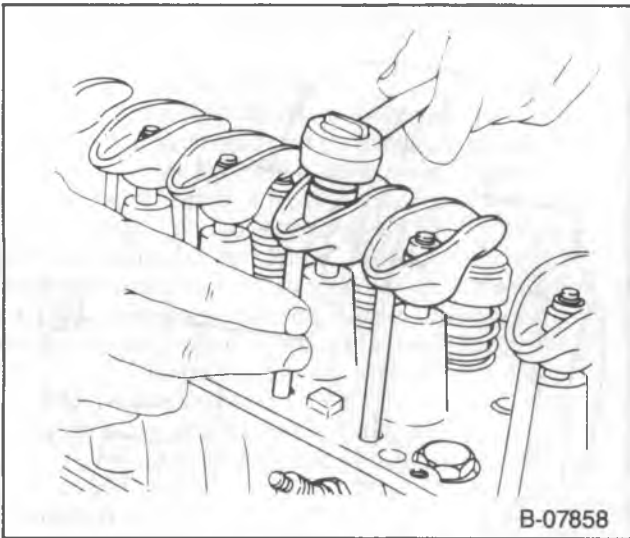

Figure 60—Adjusting the Valves
2. Turn the adjusting nuts for rocker arm numbers 4, 6, 8, 10, 11, and 12 (counted from the front of the engine) until there is no free lash at the pushrod (figure 60). Then tighten the nut one full additional turn (to center the lifter plunger).